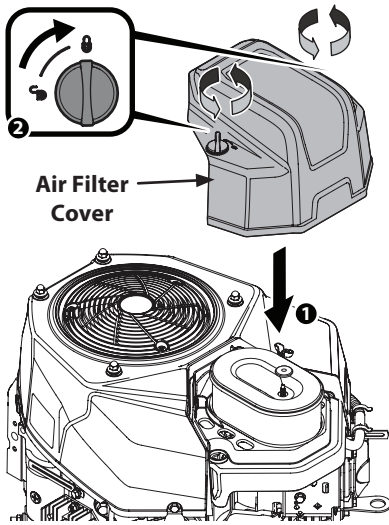

Figure 6-8
8. Attach the air filter cover. See Figure 6-8. Turn thumb screws clockwise a 1/4 turn until snug. Check for any misalignment.